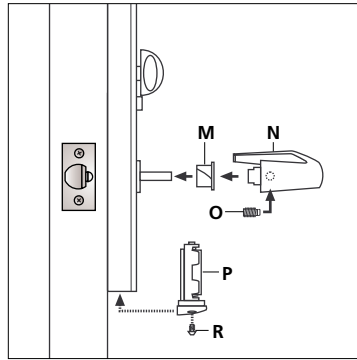

Figure 12
- 12) Install the nylon bearing (M). Secure inside lever (N) with the set screw (O) tighten the screw to 40 inch pounds or 4.5 Nm. Insert the battery holder assembly (P) into the housing and secure it with the 6-32 X 1/4" hex socket cap screw (R) (see Figure 12). When you connect the batteries, you should hear the motor run for a short period of time. If you do not, replace the batteries. Anytime the battery is disconnected from the lock, a 3 second pause is required before reconnection. If the lock motor runs constantly, disconnect and then reconnect the battery (do not forget the 3 second pause). If the lock motor runs constantly after the battery is reconnected, replace the lock.